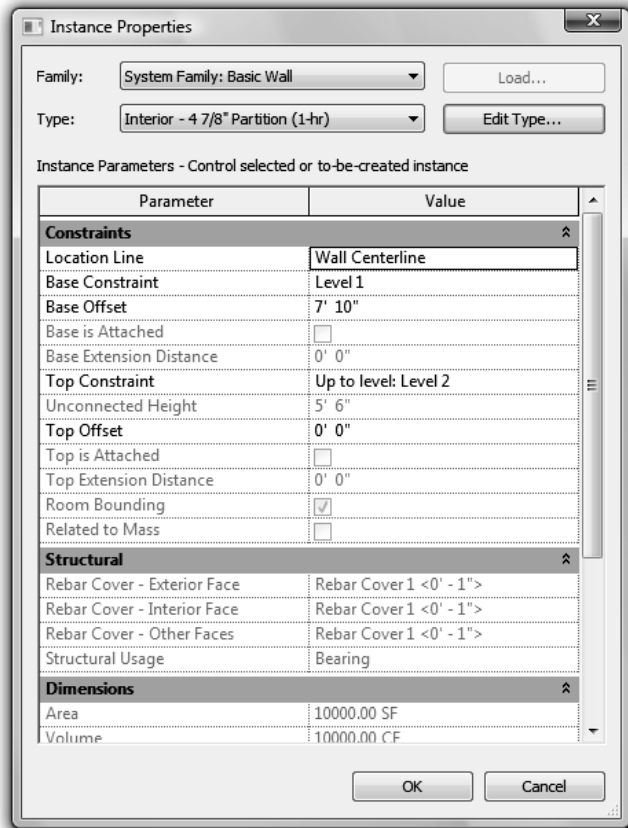

Figure 7-4.11 Bulkhead (wall) properties
30. Set the Top Constraint to: **Up to level: Level 2** (Figure 7-4.11).